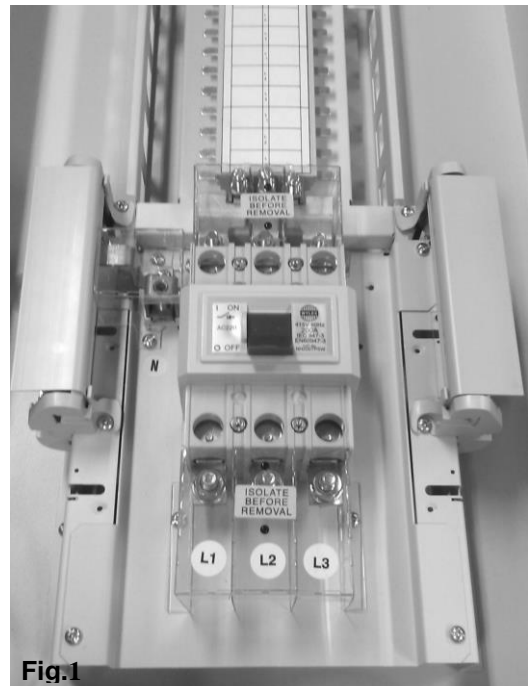

Fig.1
- 5) Replace lower terminal shroud, fix with screws provided. See Fig. 1.